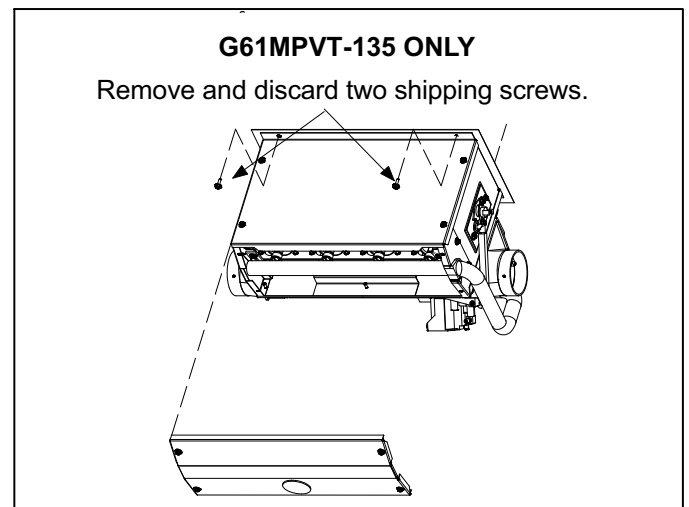

FIGURE 33
- 7 - Remove burner box cover and remove four burner box screws at the vestibule panel and remove burner box. Set burner box assembly aside. G61MPVT-135 only - Remove and discard two additional shipping screws. See figure 33.
- 5 - Remove burner box cover and remove four screws which secure burner box assembly to vent panel. Remove burner box from the unit. G61MPVT-135 only - Remove and discard two additional shipping screws. See figure 33.